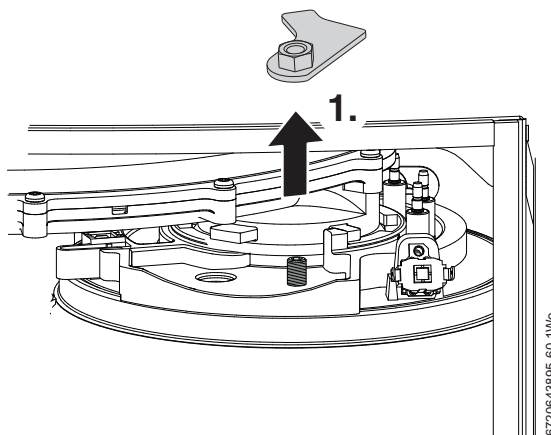

Fig. 59 Securing nut
1. Refer to figure 59 and undo the securing nut on the top of the heat exchanger and remove the retaining plate assembly.